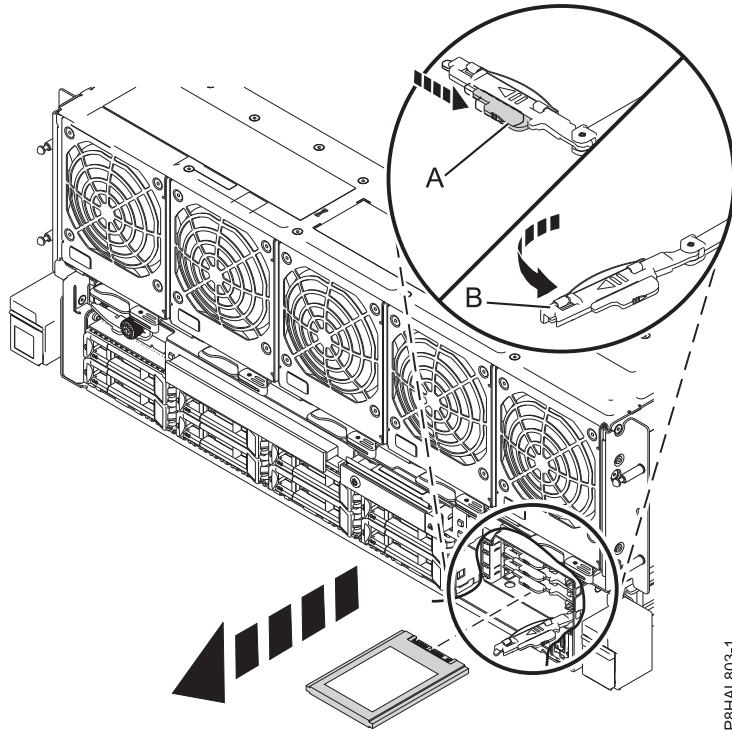

Figure 18. Removing an SSD from an 8408-44E or 8408-E8E system
9. Unlock the drive handle (B) by pushing the handle latch (A) in the direction that is shown, and pulling the drive handle (B) out toward you, as shown in Figure 18 on page 29. If the handle is not all the way out, the solid-state drive cannot slide out of the system.